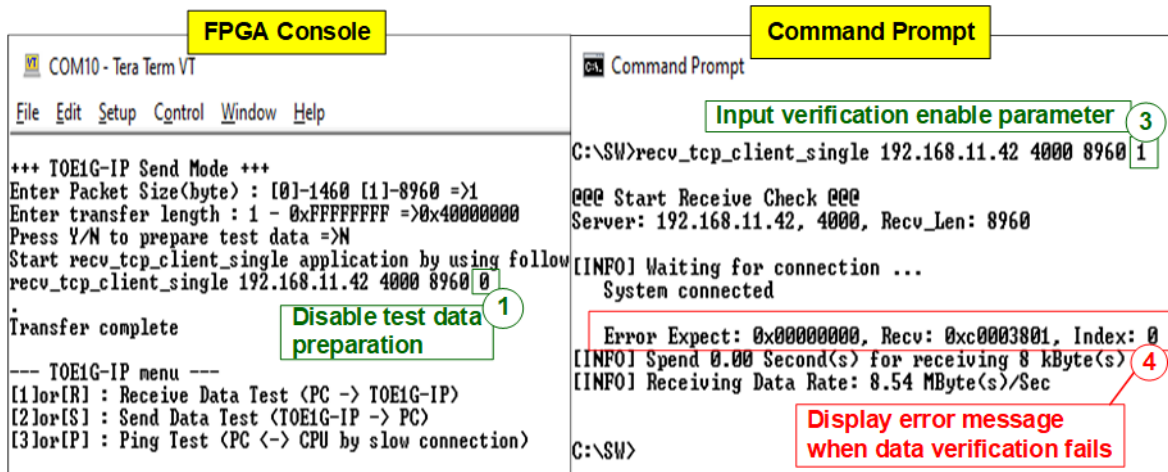

Figure 4-10 Send data test and data verification fails
- d) Verification: [0]-No verification, [1]-Enable data verification. Option '0' does not require the CPU to verify the test data, resulting in lower PC resource usage compared to option '1'. In certain PCs, option '0' demonstrates better performance than option '1'. Option '1' can be selected only when the step 1) chooses the option to prepare incremental data, not dummy data. The data verification will fail if the FPGA sends dummy data, but the PC enables data verification (as shown in Figure 4-10).